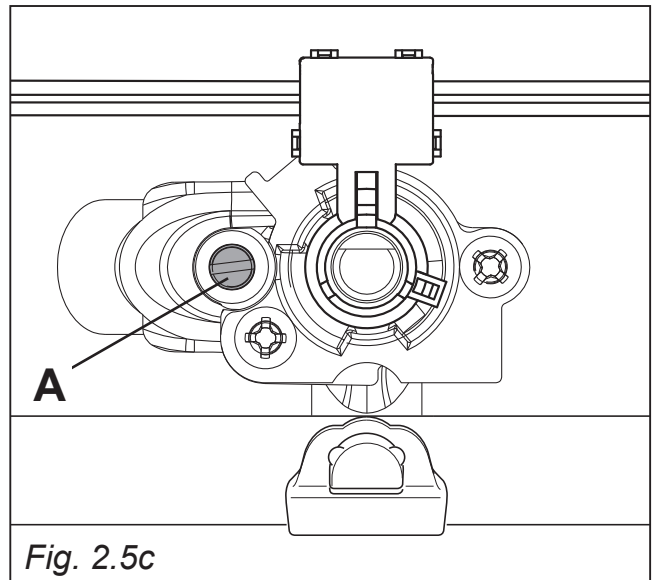

Fig. 2.5c
- With a thin screwdriver turn the screw "A" until adjustment is correct (fig. 2.5c).